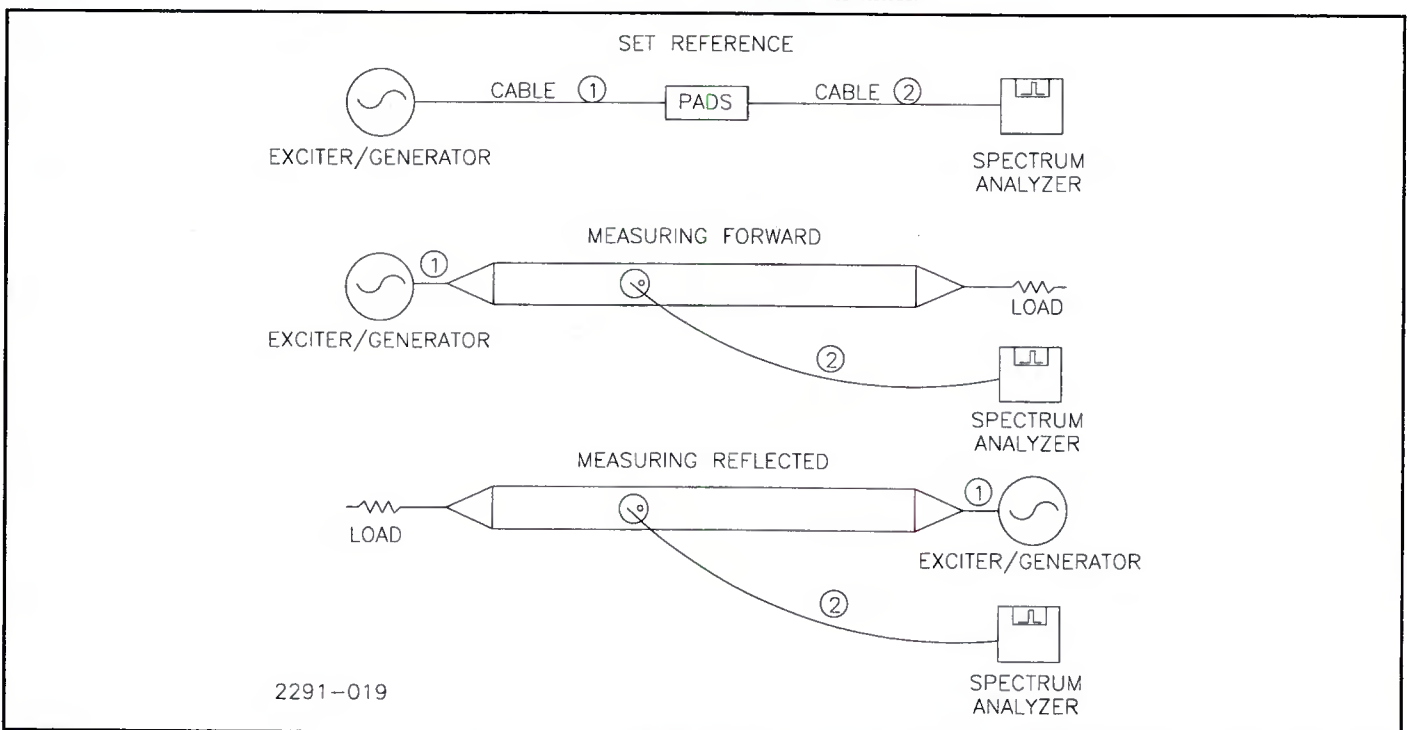

Figure 5-3. Directional Coupler Alignment Setups
- d. Remove the directional coupler line section from the system, and set up the equipment per Figure 5-3.